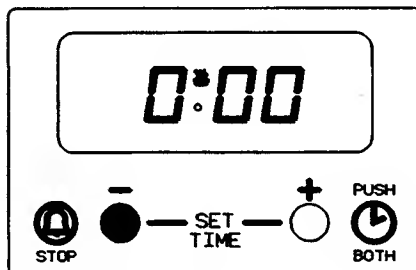

Fig. 6.4
To set, press button (1) and the display will read **0:00**. See Fig. 6.4.